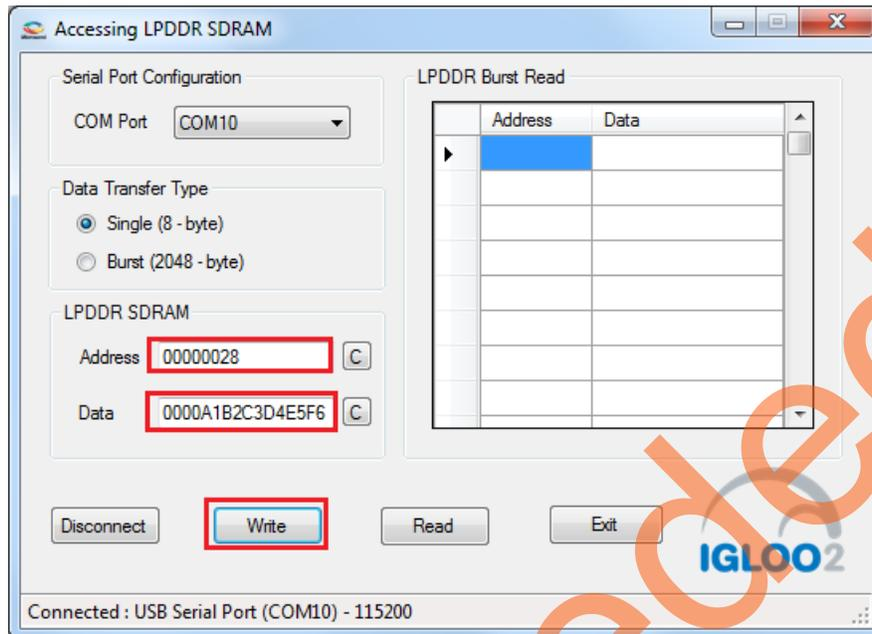

Figure 21 • Single Write Operation
- Figure 21 shows the **Address** and **Data** values entered for a Single Write operation.